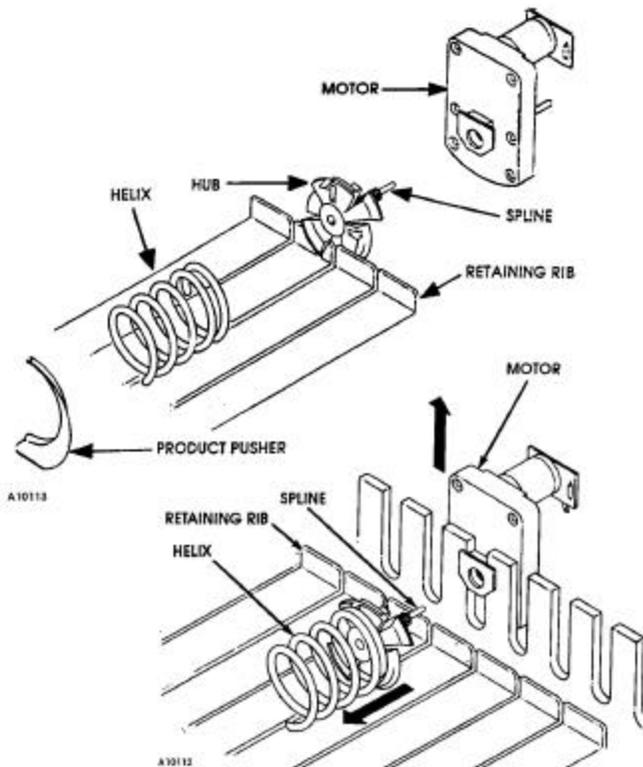

Figure 8
4. Lift the motor slightly (approximately 3/4”) to disengage the auger hub from the retaining rib in the bottom of the tray. See **Figure 8**.
5. Separate the hub from the motor slightly by pulling forward on the hub to disengage its spline from the motor’s internal gear. See **Figure 8**.
If fine-tuning is required for auger timing, advance or retard the product pusher on the front of the auger. See **Figure 8**.